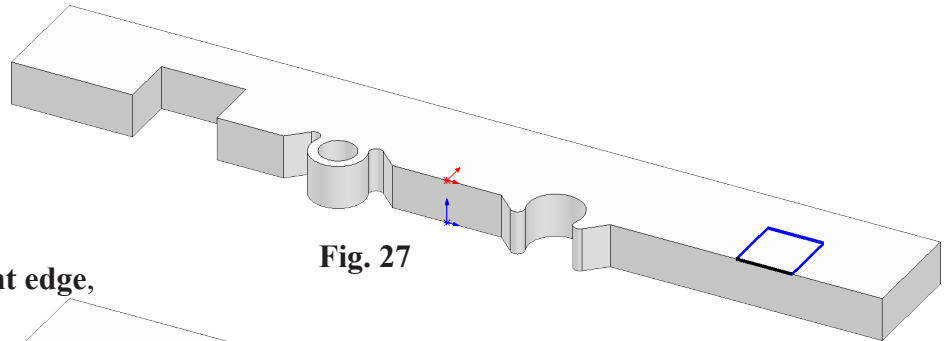

Fig. 27
Step 3. Sketch corner rectangle to **right of Origin** co-incident with front edge, Fig. 27.